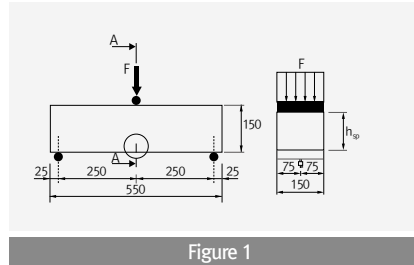

Figure 1
- Flexural tensile test is performed on a specimen of Notched Beam in accordance with the British BS (British Standard) (Figure 1).